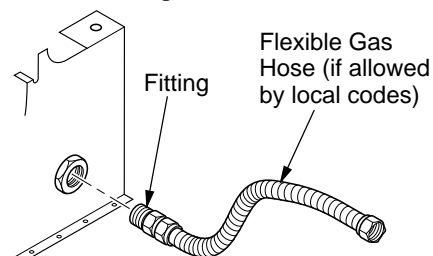

Figure 11 - Attaching Flexible Gas Hose to Heater
1. Apply pipe joint sealant lightly to male NPT threads of the fitting to be threaded into gas control. Connect approved flexible gas hose to gas control fitting in heater (see Figure 11). **IMPORTANT:** Hold gas fitting with wrench when connecting flexible gas hose.